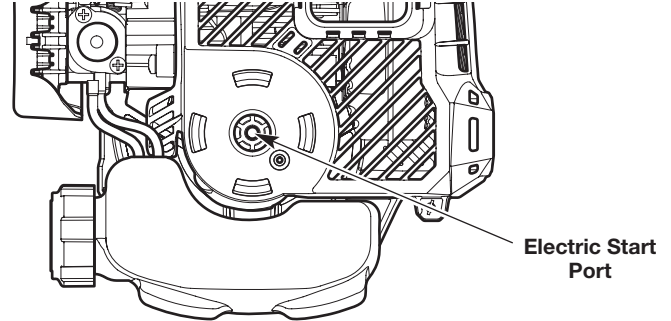

Fig. 8
4. Insert the electric start accessory into the electric start port (Fig. 8).